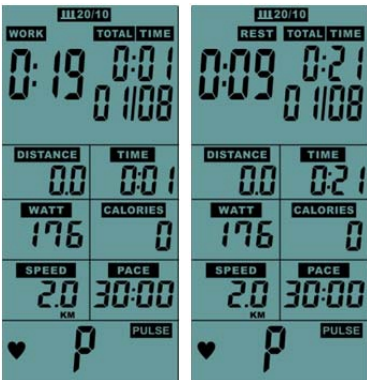

Figure 9
- C. The "READY" icon counts down from 3s to 0s, meanwhile with a short buzzer beep (figure 7), LCD display "01/XX" ("01" is flashing). The "WORK" icon is flashing one time every 1s with buzzer sounds (shining 0.75s/ put out 0.25s), "TIME" icon counts down from 10s to 0s, DISTANCE, CALORIES, WATTS, SPEED, RPM count up according the operation. (figure 9).